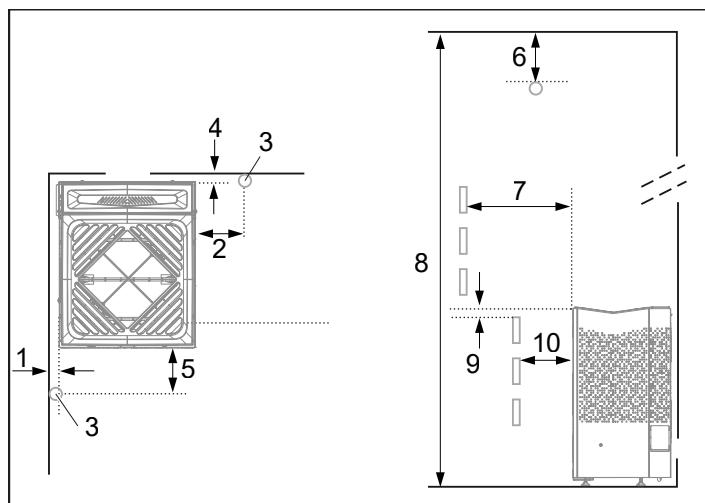
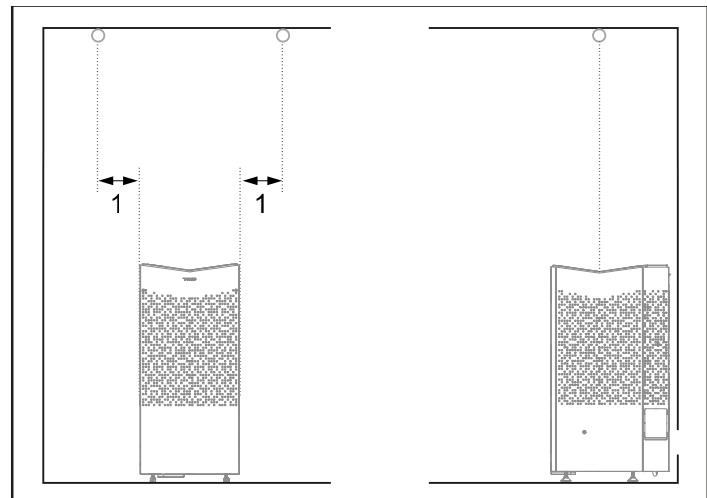

Figure 3: Positioning the heater - normal installation
Figure 4: Sensor installation on ceiling
- Plan the sauna heater positioning (see the Heater positioning - normal installation section, Figure 3).
- Plan the sensor positioning (see Figure 3 and Figure 4).
- Position the heater at a safe distance from the floor, side walls and interior fittings (see Figure 3).
Position the sensor according the picture (see Figure 3).
If the wall on which the sensor is to be installed is made of highly heat-absorbing material (e.g. concrete, brick, etc.), or of hardened glass, the sensor may be installed in the ceiling at a distance from the heater, according to Figure 4.